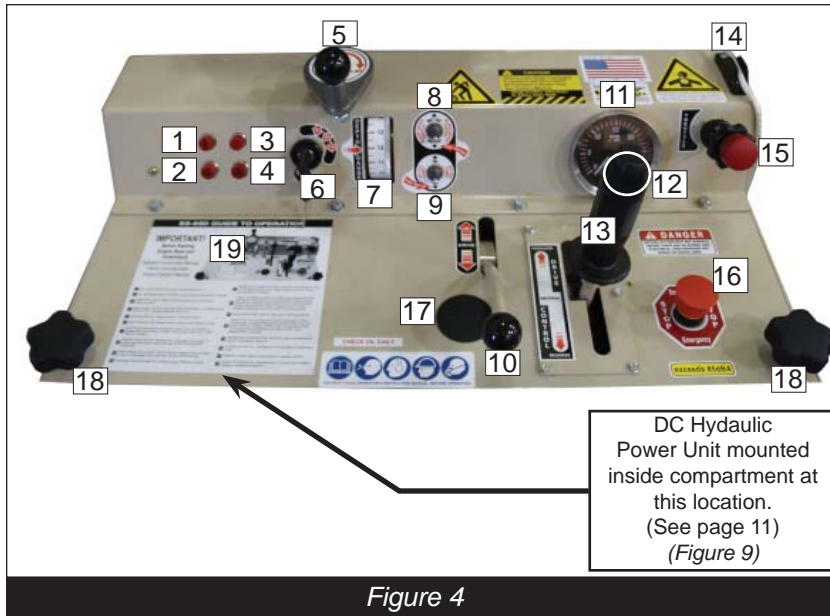

Figure 4
- Verify the Drive Control lever is in the Neutral (center) position. (*Figures 4 & 5*)